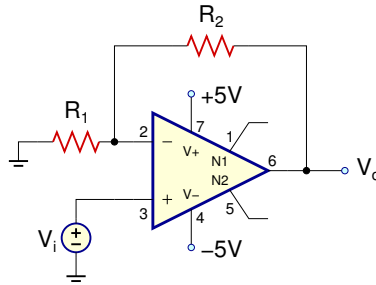

Figure 5: Non-inverting amplifier configuration
Assuming a finite GBW of ω_t , the frequency dependent gain of the non-inverting amplifier shown in Fig. 5 is given by
1. For the non-inverting amplifier in Fig. 5, assume $R_1 = 1k\Omega$. Find the values of R_2 to set the low-frequency gain to 23, 57, and 83.
1. Draw the schematics for the non-inverting amplifier in Fig. 5.
1. Build the non-inverting amplifier in Fig. 5 with $R_1 = 1k\Omega$ and R_2 corresponding to the gain of 23.
5. For the non-inverting amplifier in Fig. 5: